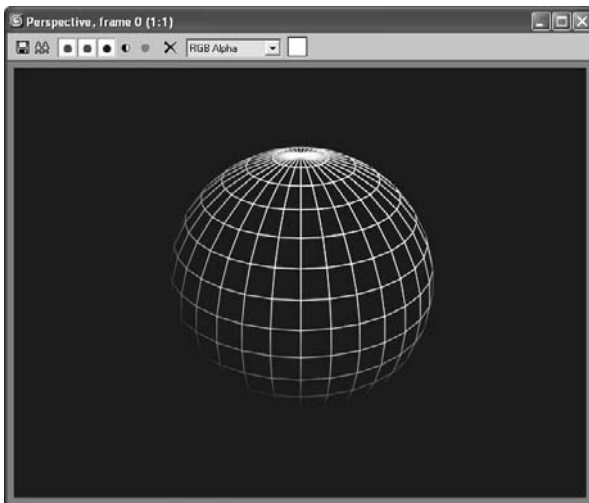

Figure 7.5
**Wire** When you turn Wire on, the object attached to this material will render as a Wireframe object, as shown in Figure 7.5. This simple setting is very powerful; it's used when you need to render line art or wireframe views.